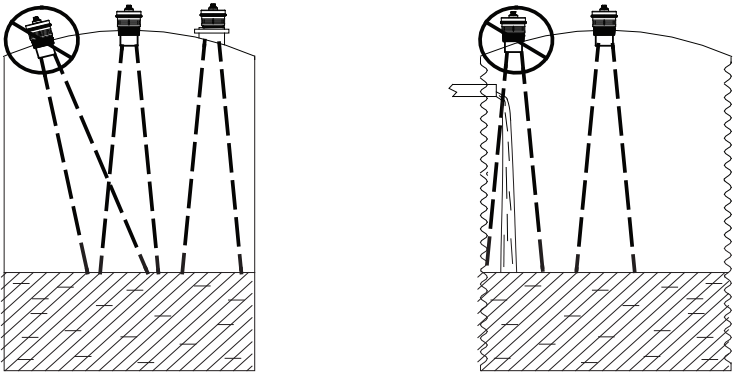

FIGURE 4.1
- Mount your MNU sensor so that it has a clear, perpendicular sound path to the surface being monitored. Your sensor should be mounted away from tank or vessel walls and inlets (see Figure 4.1).